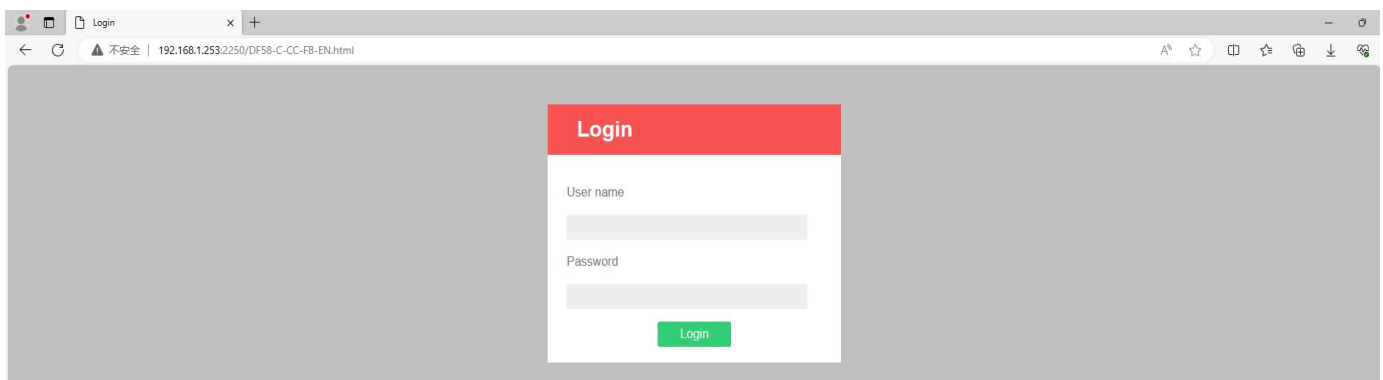
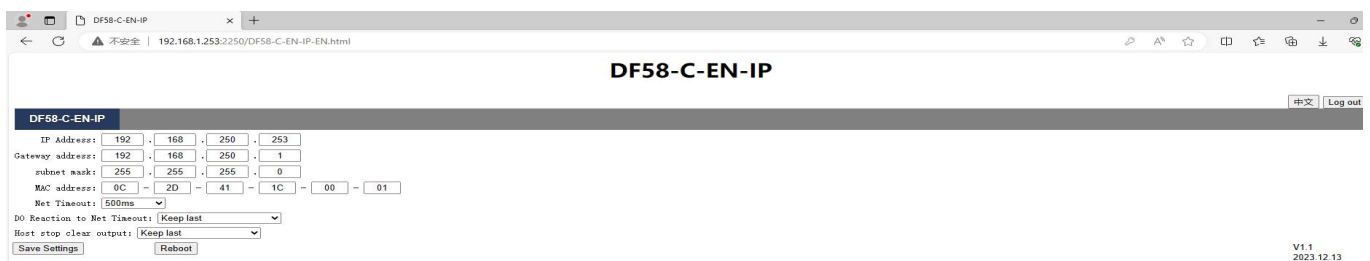
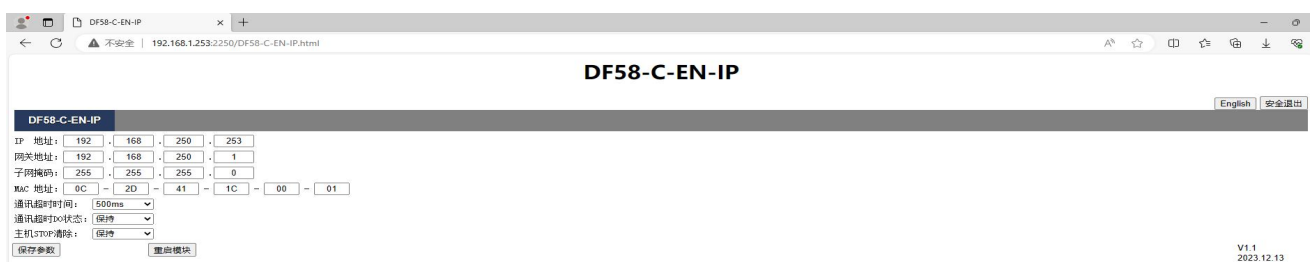

Figure 1 Login page
Figure 2 English page
Figure 3 Chinese page
**parameters of the login web page.** You need to add 2250 to enter the web page, for example, 192.168.3.100:2250. The default IP address of the web page is 192.168.1.253, and the default username and password are "**admin**", and you can log in to the web page parameter configuration page to configure the parameters. Figure 1 is the login page, Figure 2 is the English page of the module, switch the Chinese and English pages through the Chinese/English button in the upper right corner, and Figure 3 is the Chinese page of the module.